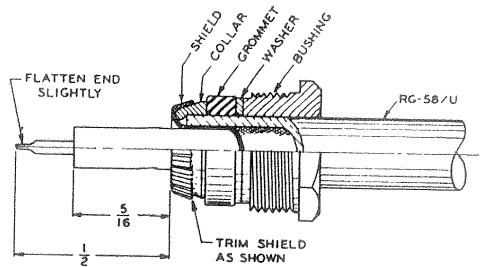

Fig. 6-2. Cable Service For Connector, Plug (D-C Plug P-101)
- e. Fold back the braids, and trim them as shown in Figure 6-2; remove the insulation to the dimension shown.